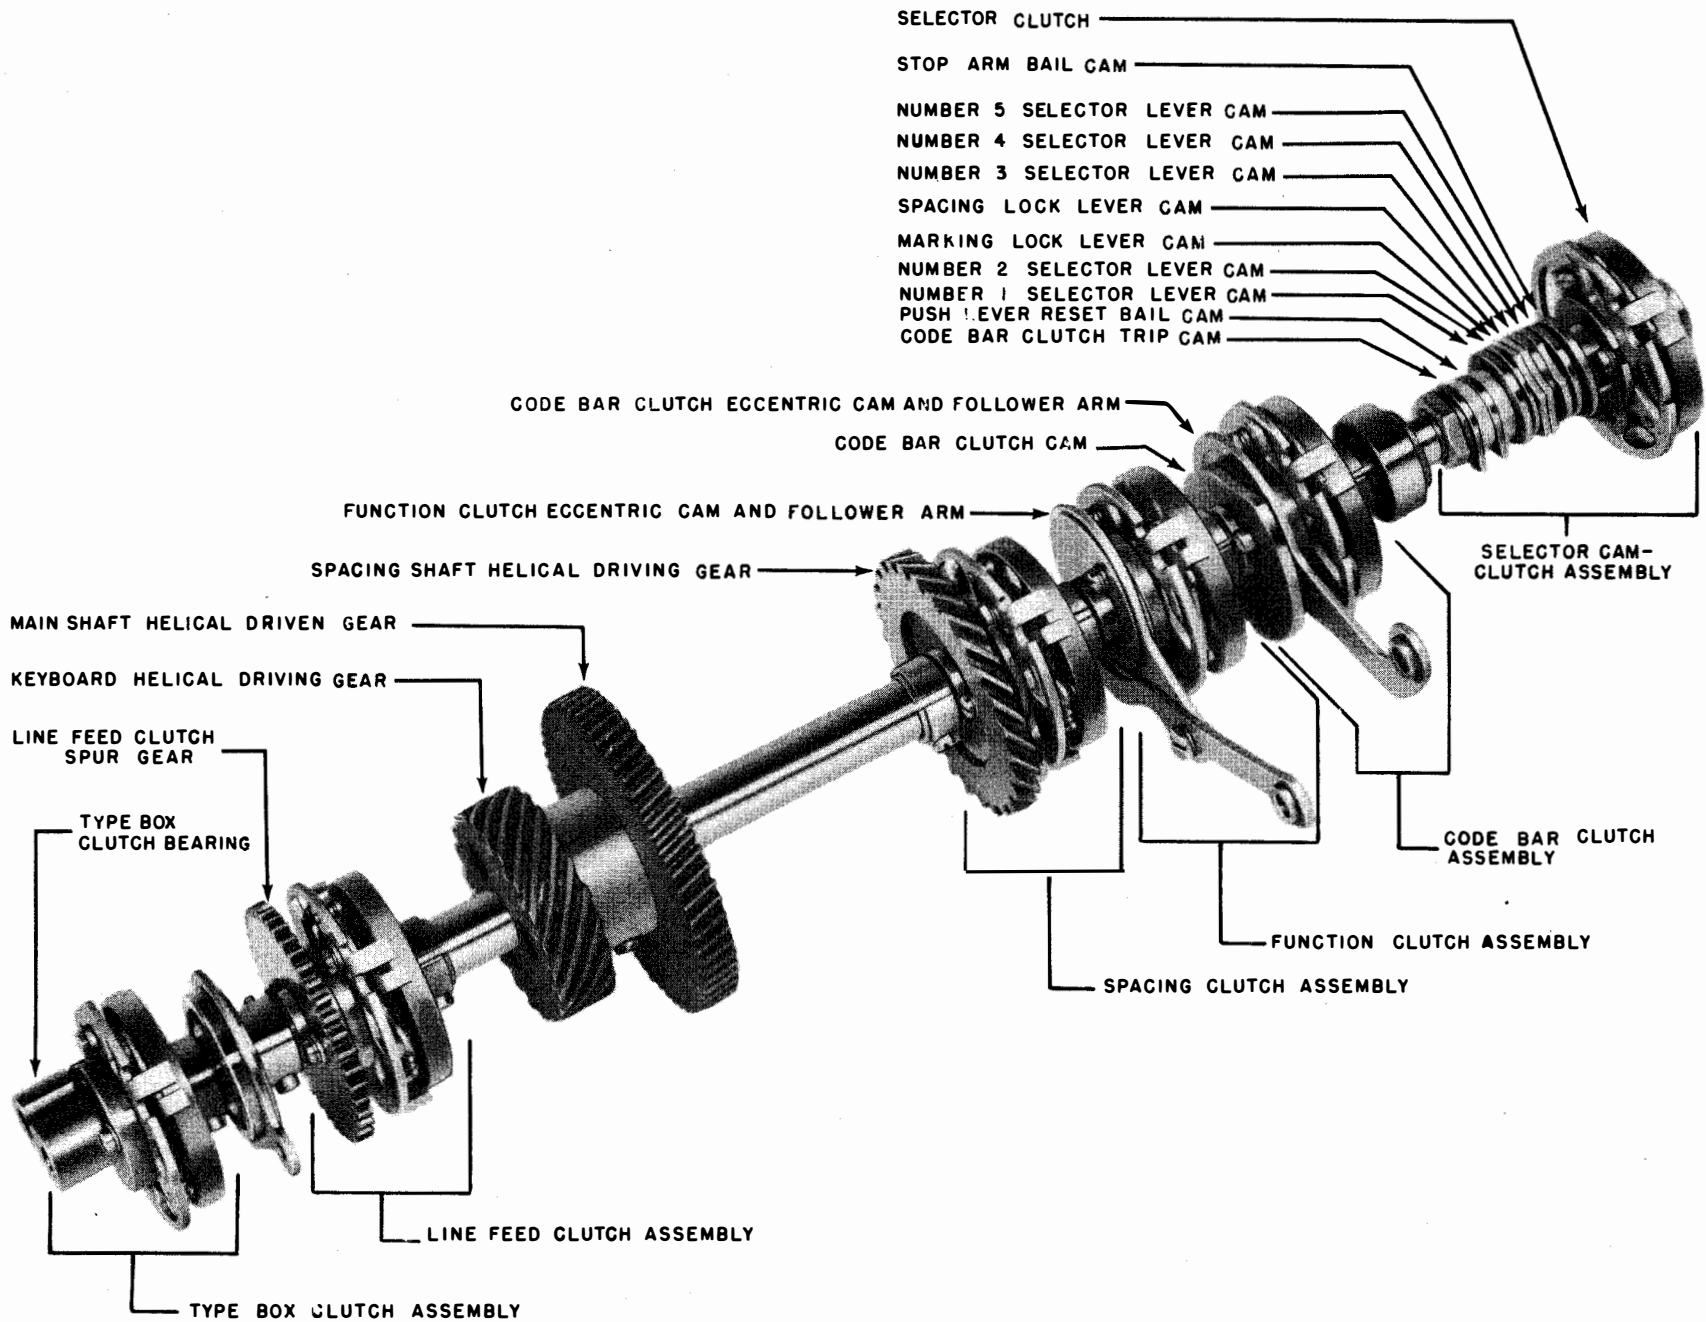
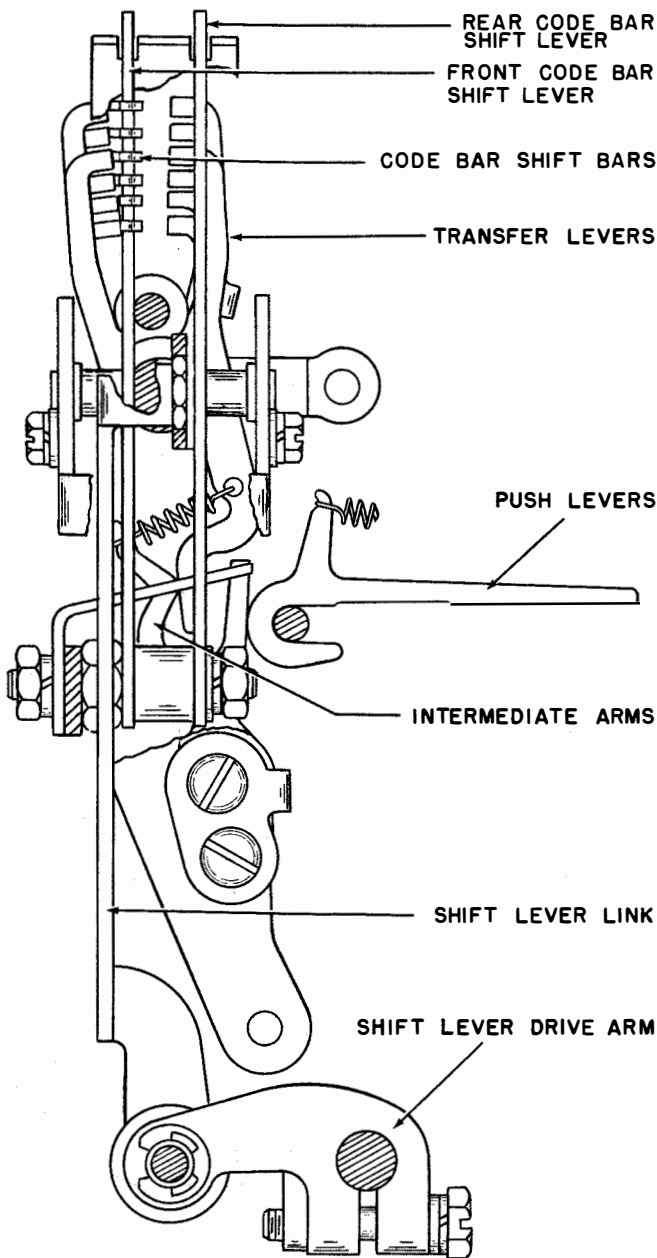
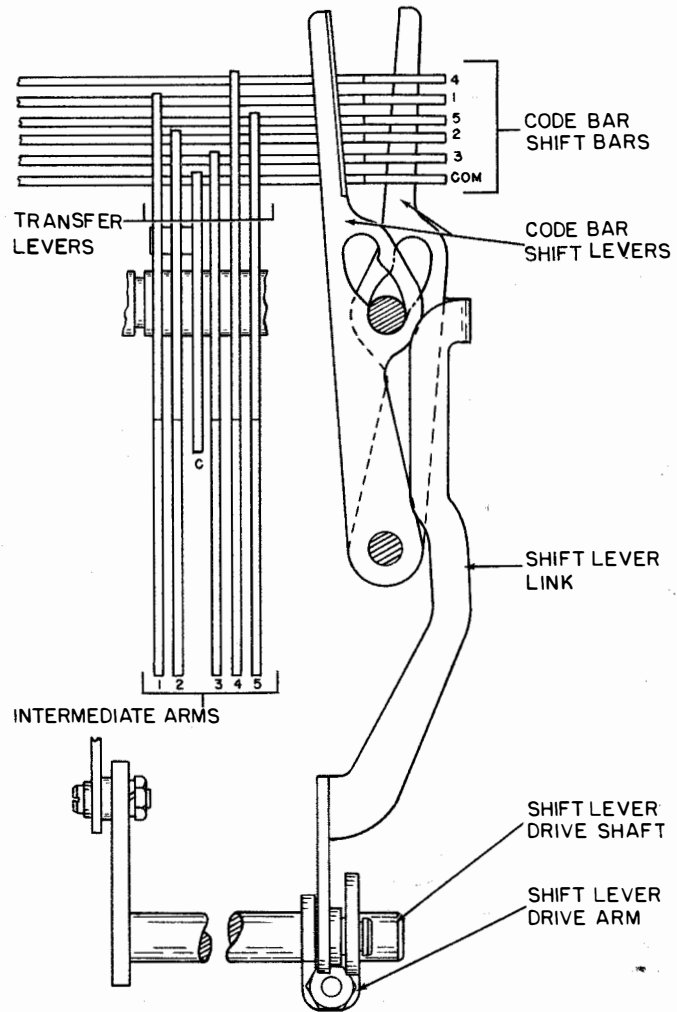
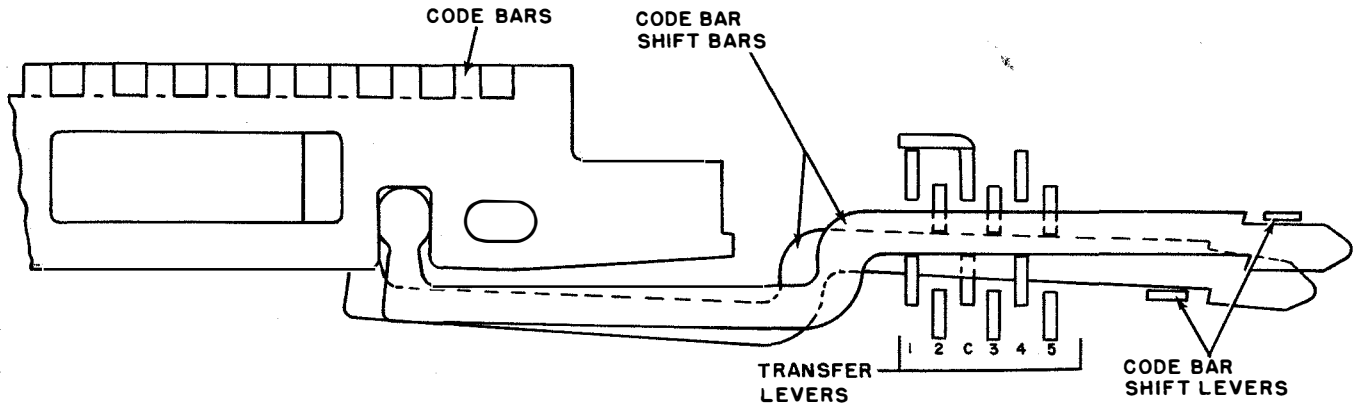

Figure 2-34. Automatic Typewriter Main Shaft
Figure 2-39. Code Bar Positioning Mechanism
Figure 2-40. Code Bar Positioning Mechanism, Front View
Figure 2-41. Code Bar Positioning Mechanism, Top View
##### b. MAIN SHAFT. (See figure 2-34.)
(1) The selecting mechanism consists of the selector magnet coils E-1304 and E-1305 and armature, a selector cam-clutch and the associated levers, arms, bails, and slides necessary to convert the electrical elements of the start-stop code to the mechanical arrangements which govern the characters to be printed and the functions to be performed.
(2) The selector cam-clutch comprises, from right to left (figure 2-34), the clutch, the clutch stop arm operating cail cam, the fifth, the fourth, and the third selector lever cams, the spacing and the marking lock lever cams, the second and the first selector lever cams, the push lever reset bail cam, and the code bar clutch trip cam.
shift bar (figure 2-39). In addition there is a "common" transfer lever with its code bar shift bar. When a push lever is toward the right (space position) its associated intermediate arm and transfer lever are pulled toward each other by a spring. This causes the transfer lever to turn counterclockwise about its pivot point (right end view) and position its code bar shift bar toward the front of the Automatic Typewriter (space position). When a push lever is to the left (mark position), it moves the intermediate arm toward the left. This causes the transfer lever to turn clockwise about its pivot point and position its code bar shift bar toward the rear of the Automatic Typewriter (mark position). The common transfer lever (front view—third from the left) has an extension which passes behind the number one and number two transfer levers (figures 2-40 and 2-41). When either or both of these transfer levers are moved to the rear (mark position), they move the common transfer lever to the rear. This in turn moves the common code bar shift bar toward the rear of the Automatic Typewriter (mark position). As
the selector cam-clutch completes its revolution, a trip-shaft operating lever (fastened to the code bar clutch trip shaft) drops into the indent of the code bar clutch trip cam (figure 2-34). This causes the shaft to turn slightly and its attached code bar clutch trip lever releases the code bar clutch. Rotation of the clutch actuates the code bar shift levers through the intervening shift lever drive shaft, drive arm, and shift lever link (figure 2-40). Code bar shift bars which have been moved toward the rear position by their transfer levers are engaged by the rear code bar shift lever and are shifted to the left. Code bar shift bars which have been moved toward the front position are engaged by the front code bar shift lever and are shifted toward the right (figure 2-41). Thus, the six code bar shift bars shift their respective code bars toward the right or left where they are retained by a detenting mechanism. The code bar clutch one-stop cam disk has an indent at its stop position. The code bar clutch latch lever follows this cam disk and is thereby held away from the clutch drum until the lug on the clutch shoe release lever passes under the latch lever and is stopped by the code bar clutch trip lever. Due to its inertia, the one-stop clutch cam disk continues to turn until its lug makes contact with the lug on the clutch shoe lever. At this point the latch lever drops into the indent in the cam disk, and the clutch is held disengaged until the trip lever is again operated.